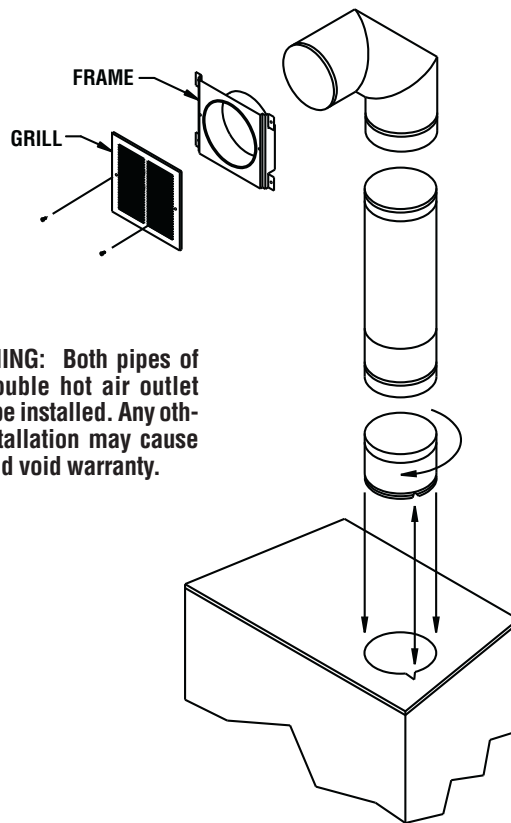

Figure 16
(see **Figure 16**)
1. Remove the top and bottom plates closing up the 8" diameter holes on top of the fireplace. Then, cut the insulation in order to obtain two 8" diameter openings. Fix the adaptors on the fireplace openings by turning clockwise (refer to **Figures 16 and 17**).